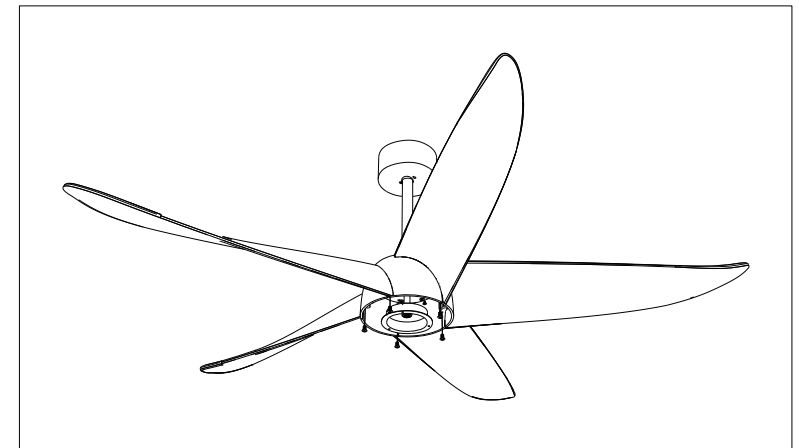

Figure 3
3. Use screw 14 x 5 to fix each fan blade in turn to the next blade and tighten the screws on the fan blade. (figure 3)